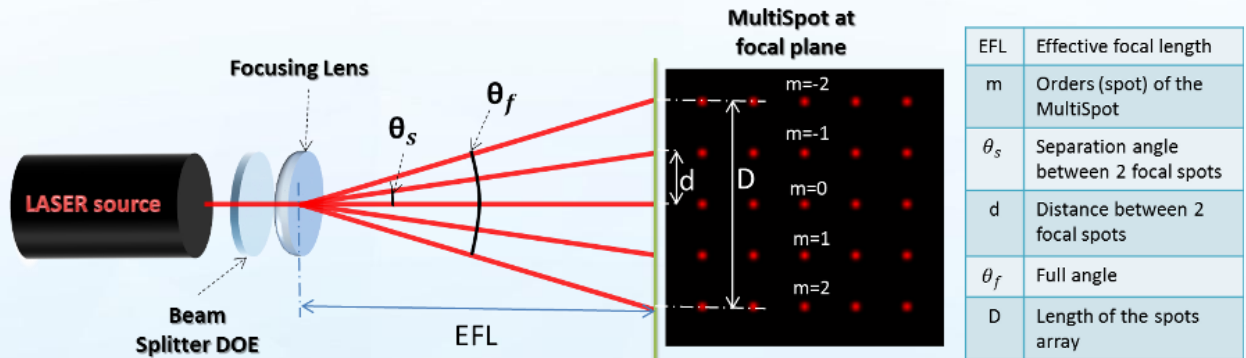

Figure 2 - Schematic set-up
1. In order to achieve well-focused spots at a certain distance, one needs to add a focusing lens after the DOE, as shown in figure 2 below.